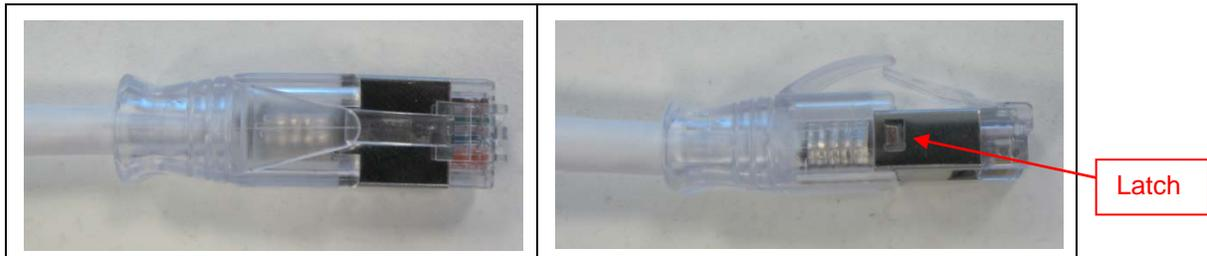

Figure 12. Slide Boot over Crimped Plug
- Slide the boot over the crimped plug and shield up to the end. A double click shall be heard when both latches are in their place See Figure 12.